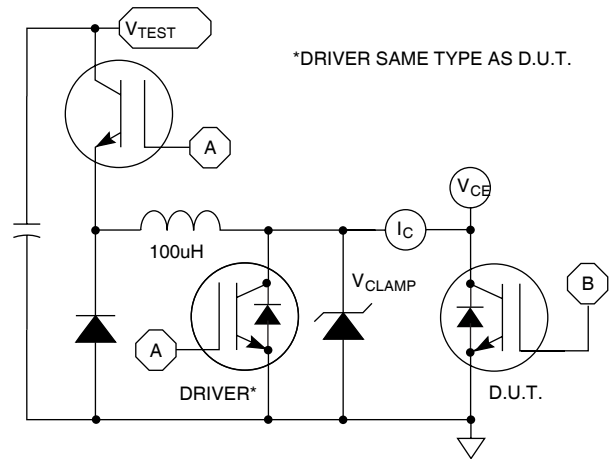

Figure 24, EON1 Test Circuit
- ① Repetitive Rating: Pulse width limited by maximum junction temperature.
- ② For Combi devices, I_{ces} includes both IGBT and FRED leakages
- ③ See MIL-STD-750 Method 3471.
- ④ E_{on1} is the clamped inductive turn-on-energy of the IGBT only, without the effect of a commutating diode reverse recovery current adding to the IGBT turn-on loss. (See Figure24.)